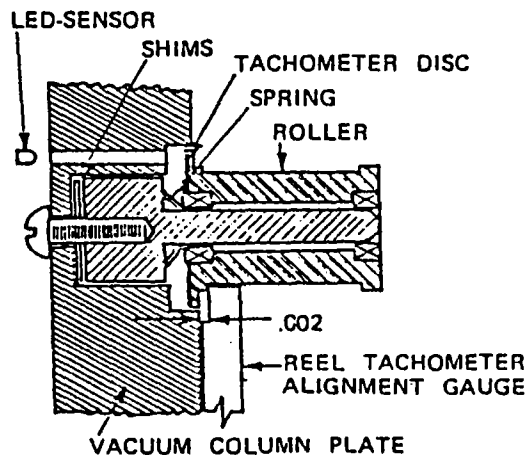

Figure 5-13. Reel Tachometer Alignment
1. Hold the gauge against the plate as shown in Figure 5-13 so that the cut in the gauge overlaps the step on the roller. Do not measure to the roller flange.